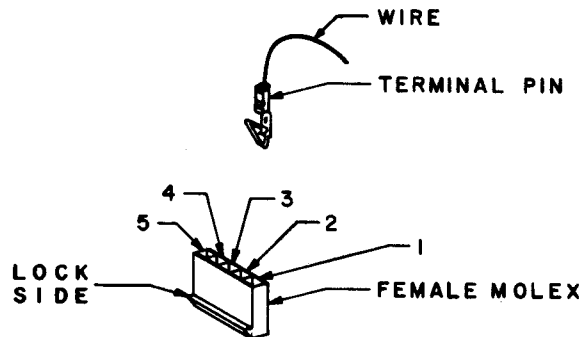

Figure 3-21. Female Molex Wiring
2. Obtain the 5-pin female molex plug from Bag 5 and insert the YELLOW wired terminal pin into the number 1 slot of the female molex plug (Figure 3-21) until it is secure.
3. Insert the RED wire terminal pin into the number 2 slot of the female molex plug (Figure 3-21) until it is secure.
4. Insert the GREEN wire terminal pin into the number 3 slot of the female molex plug (Figure 3-21) until it is secured.
5. Insert the WHITE wire terminal pin into the number 4 slot of the female molex plug (Figure 3-21) until it is secured.
6. Insert the BLACK wire terminal pin into the number 5 slot of the female molex plug (Figure 3-21) until it is secure.